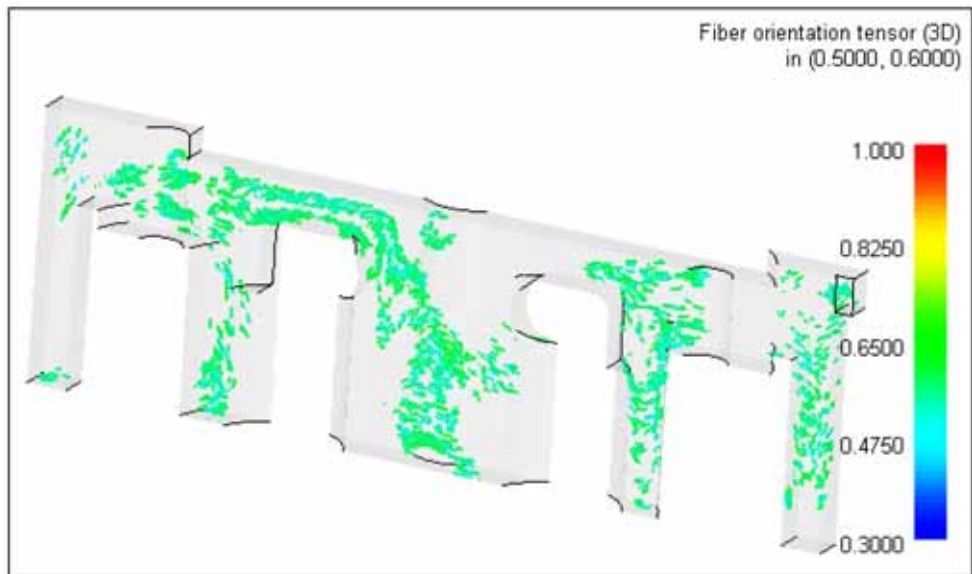

Figure 103: Fiber orientation tensor slice through the part
- Adding cutting planes allow you focus on a specific area of the part and look at the orientation in this small area. See Figure 103.